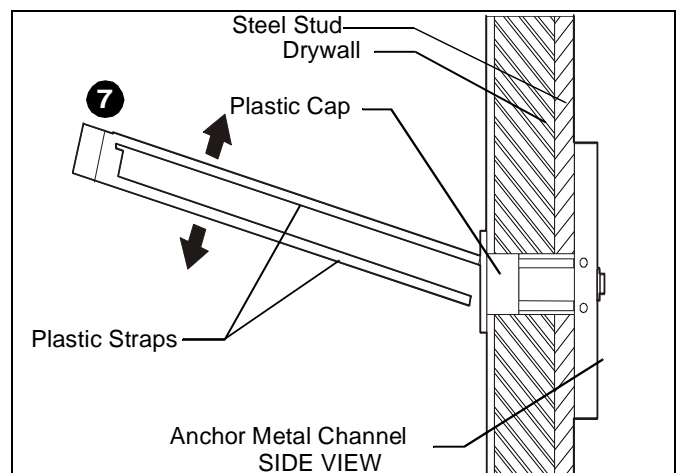

Figure 5
7. Snap off plastic straps on anchor at wall by pushing side to side, snapping off straps level with flange of plastic cap. (See Figure 5)